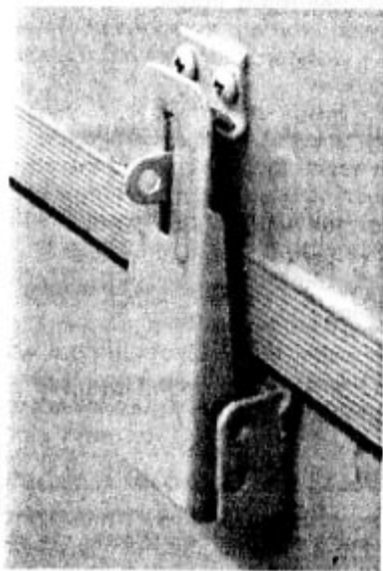

Fig. 7. Roof latch.
2. Release the roof latches. See Fig. 7.